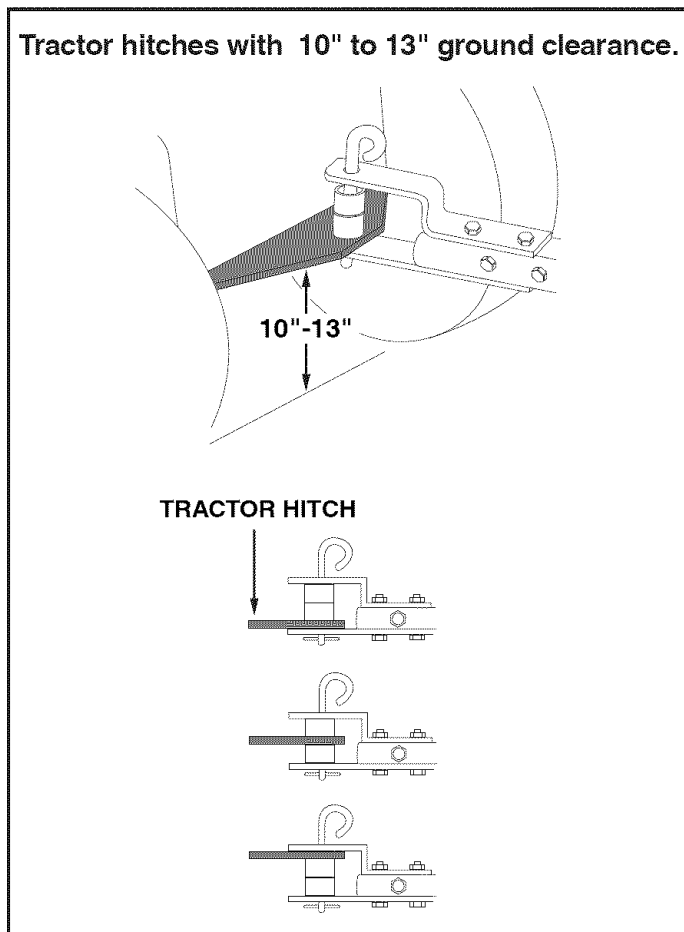

FIGURE 23
- Attach the sweeper hitch brackets to the tractor hitch, arranging the 3/4" spacers so that the bottom of the sweeper bag is approximately level and 5" to 7" above the ground. See figure 23 for tractor hitches that are 10" to 13" above the ground. See figure 24 for tractor hitches that are 8" to 10" above the ground.